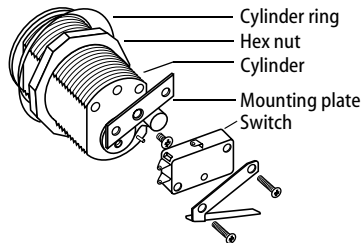

Figure 2 Disassembling switch lock, 1W7B3 shown
- 1 Remove the switch from the mounting plate as shown in Figure 2.
- 2 Remove the mounting plate from the cylinder. See Figure 2.
- 3 Remove the hex nut and cylinder ring. See Figure 2.